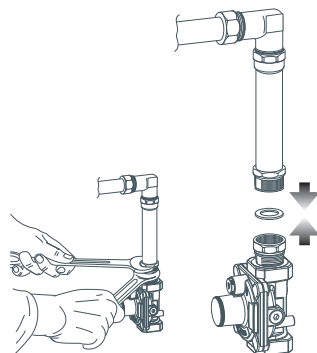

Fig. 11 Connecting the gas pressure regulator assembly to the extension pipe
- Mount the gas pressure regulator assembly to the extension pipe, making sure you place the supplied washer between them (see Fig. 11).